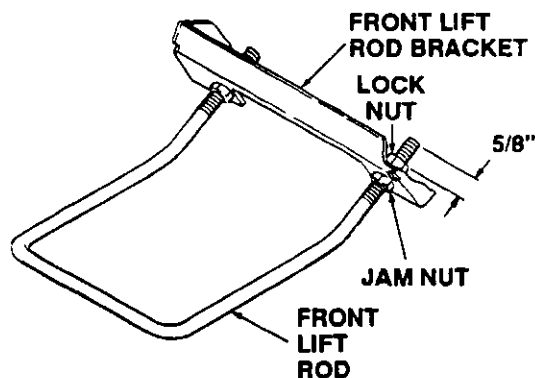

Figure 46
3. Initially adjust front lift rod to allow 5/8 inch of thread to protrude above both lock nuts of front lift rod bracket. (Refer to Figure 46.)
6. To level the blades, adjustment of the front lift rod is required. Refer to Figure 46 and proceed as follows: